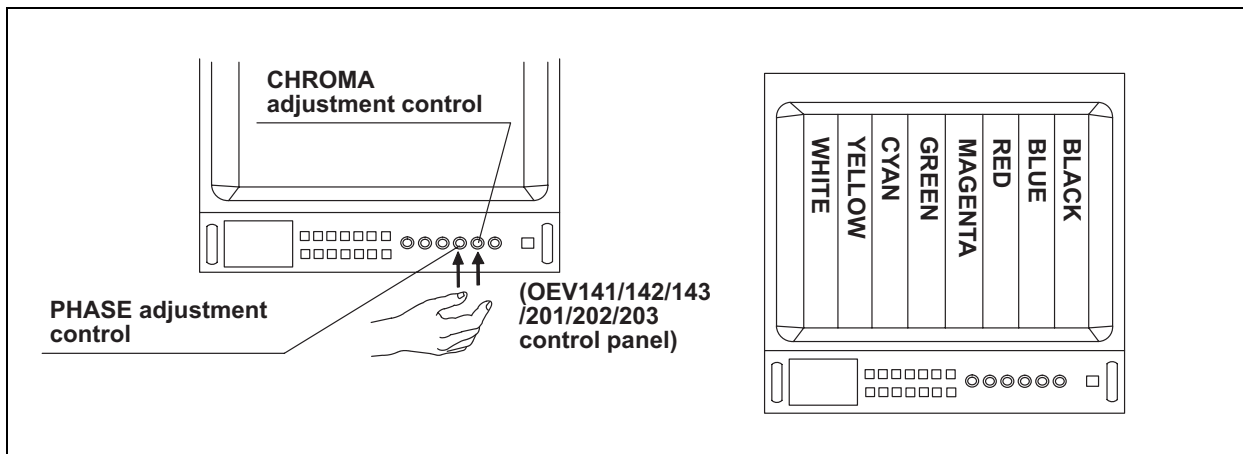

Figure 5.18
7. Refer to the instruction manual of the video monitor. Adjust the color bar until it appears as shown in Figure 5.18.